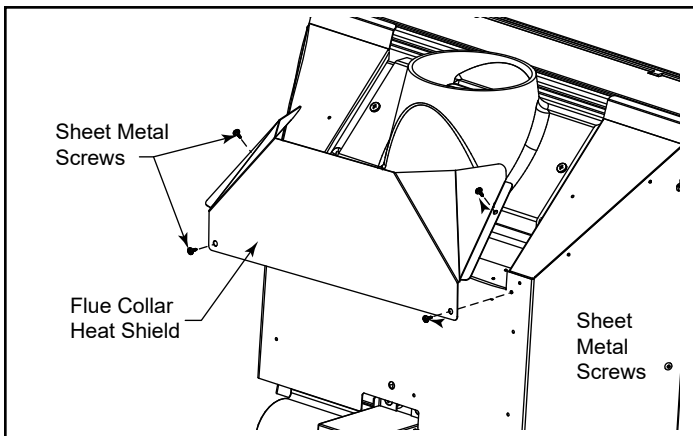

Figure 5.6 - Install flue collar heat shield.
Remove the (4) sheet metal screws that hold the flue collar heat shield in place. Once heat shield is removed, remove the (2) screws that attach the flue collar to the back of the stove, Figure 5.6. Be sure the gasket around the flue collar opening is in position when you screw the collar back onto the stove.